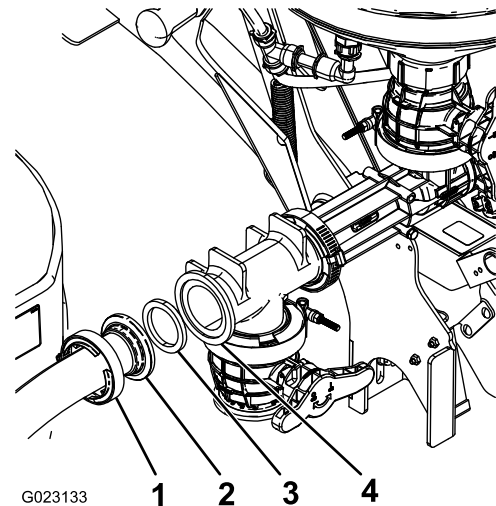

Figure 17
2. Attach the other end of the hose to the forward-facing opening of the eductor using a gasket and worm-screw clamp (Figure 17).